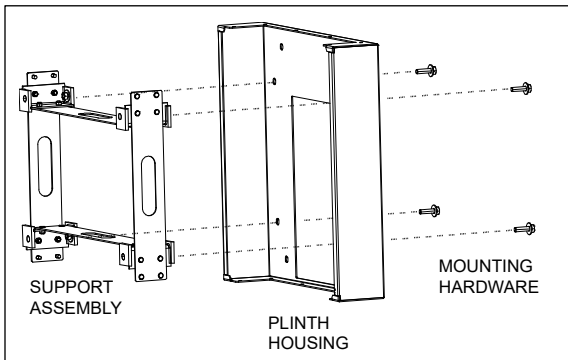
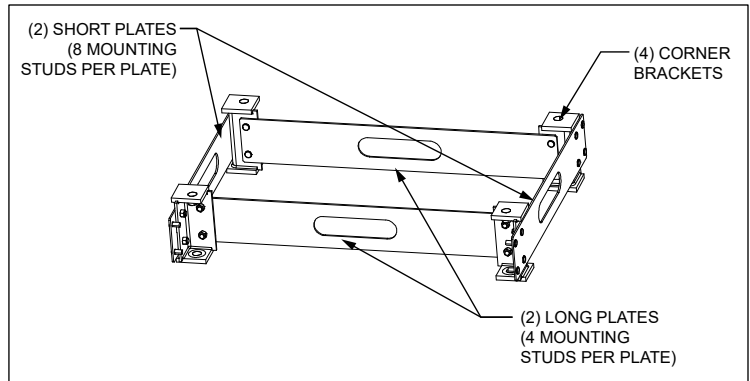

Figure 4
Figure 5
1. Remove the assembly from the inside of the plinth (Figure 4). Set aside the mounting hardware. This hardware will be used to secure the MC bay to the plinth. The components of the support assembly are labeled in Figure 5.